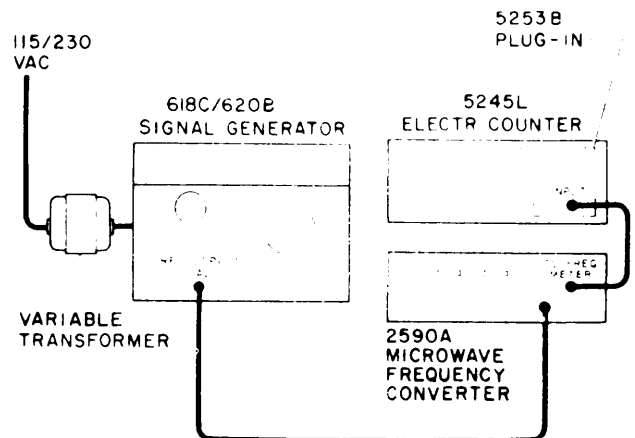

Figure 5-2. Setup for Testing Frequency Accuracy.
a. Connect Signal Generator in test setup shown in Figure 5-2.